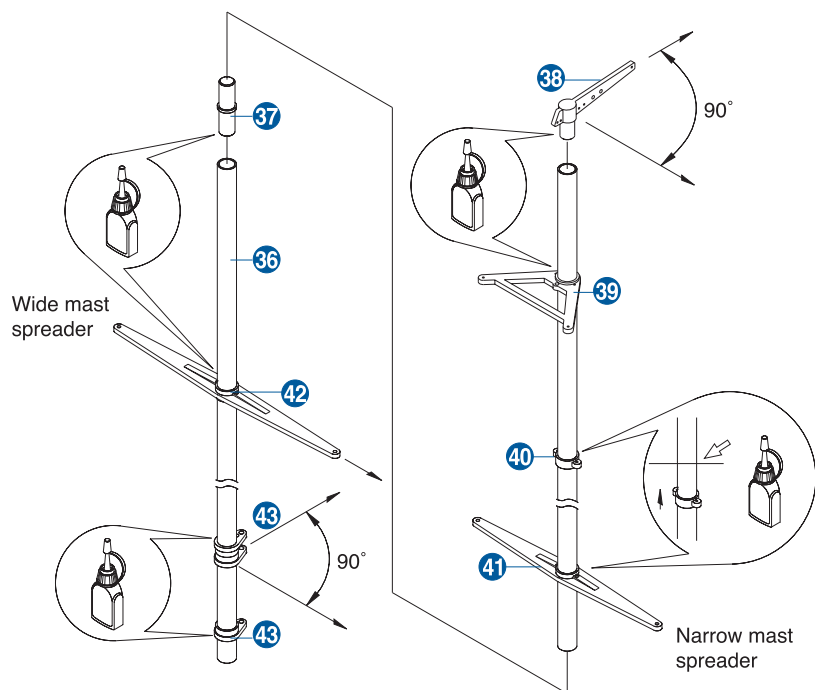

Fig. 21
5. Refer to Fig. 21 to determine the proper orientation of the various main mast fittings. When satisfied with the location, attach the fittings to mast using CA glue, but **DO NOT GLUE THE TWO GOOSENECK FITTINGS **43**** to the lower main mast half. These will need to be moved during the step 8!